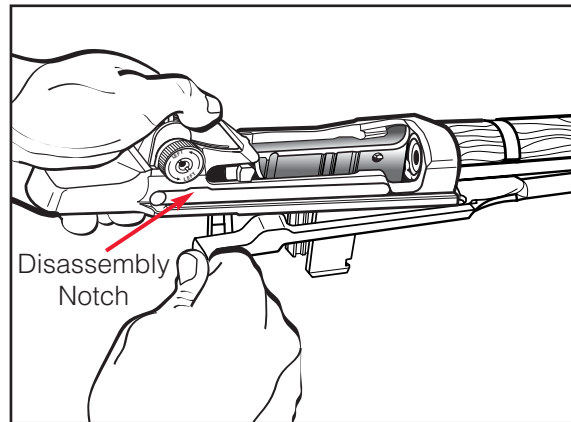

Fig. 35-2
5. Pull the operating rod to the rear until it is aligned with the rear of the disassembly notch. Using an upward and outward movement disengage the operating rod from the receiver. (See Figure 35-2). Remove the operating rod by pulling to the rear and then downward. **M1 GARAND OPERATING RODS ARE BENT BY DESIGN, DO NOT ATTEMPT TO STRAIGHTEN OR ALTER YOUR OPERATING ROD.**